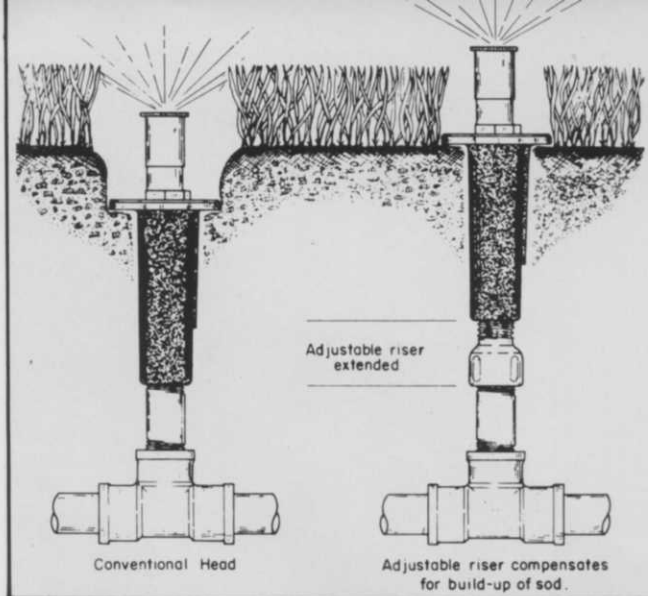

Figure 3: Adjustable risers permit adjustment of head elevation without disturbing the turf.
**Maintenance.** Conventional sprinkler heads are tapped in their base with standard pipe threads. They are attached to underground laterals with threaded nipples of various, fixed lengths. Maintenance of system invariably requires a change of nipple length to compensate for grading, turf growth, or the addition of top soil dressing. Some models incorporate adjustable risers with continuous threads. This permits adjustment of head elevations from ground level without disturbing the turf; see Figure 3. Adjustable risers add to the initial equipment cost, but this expense can be recovered many times over in lessened maintenance costs throughout the life of the system.